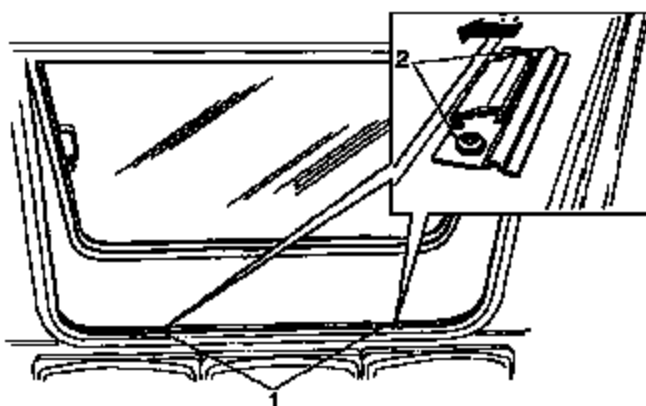

Figure 1-5 Retention Springs
1. Locate the two retention springs (1) on the lower inside window frame. See Figure 1-5.
2. Lightly loosen the two screws (2) on the lower inside window frame. See Figure 1-5.
3. Push the retention spring as far as possible towards the outside of the vehicle. See Figure 1-5.